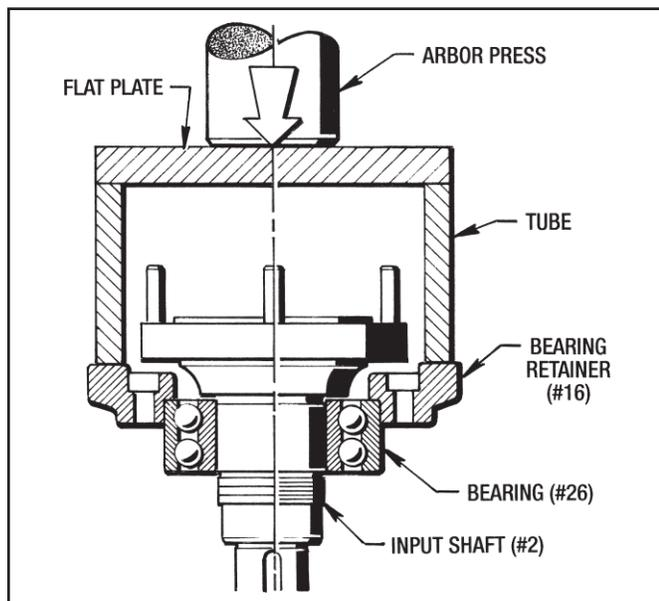

Figure 7.1 - Removing Bearing (#26)
6. Remove the Bearing Retainer (#16) and Bearing (#26) from the Input Shaft (#2) with an Arbor Press as shown in Figure 7.1.